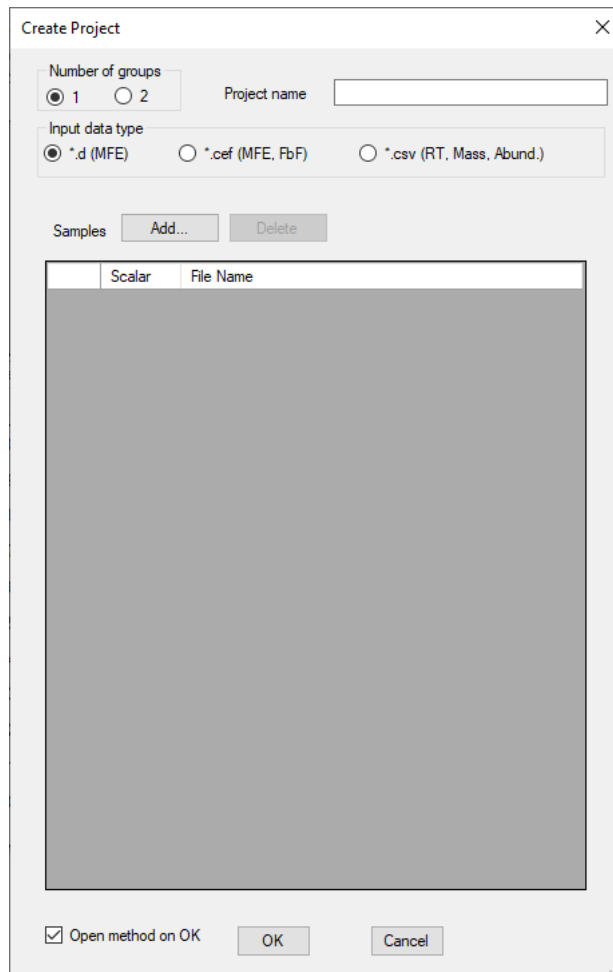

Figure 37. Create Project dialog box
- 4 For Number of groups, select **1** (Figure 37).